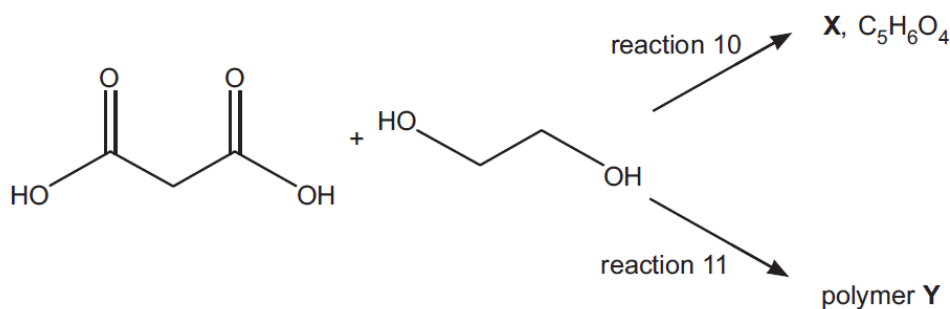

Fig. 7.1
5. Under certain conditions, ethane-1,2-diol, $\text{HOCH}_2\text{CH}_2\text{OH}$, reacts with propane-1,3-dioic acid, $\text{HOOCCH}_2\text{COOH}$, to form different organic products, as shown in Fig. 7.1.
Draw the structure of the organic product X, $\text{C}_5\text{H}_6\text{O}_4$, shown in Fig. 7.1.
- (ii) Reactions 10 and 11 in Fig. 7.1 are different types of reaction.